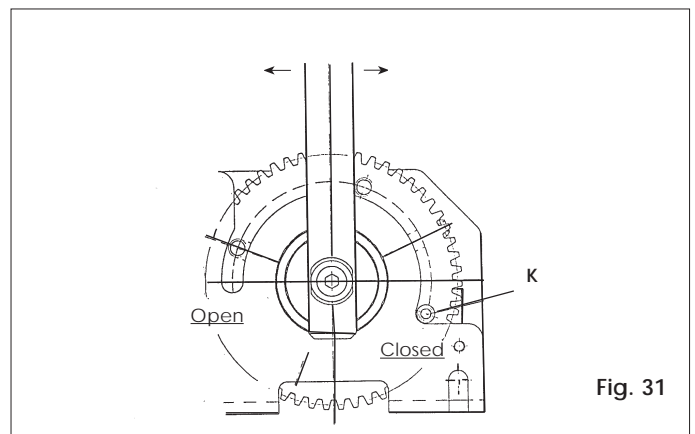

Fig. 31
- 4) Load or unload the spring by rotating the arm in the appropriate direction, and insert the screw in positioning bore K (fig. 31).